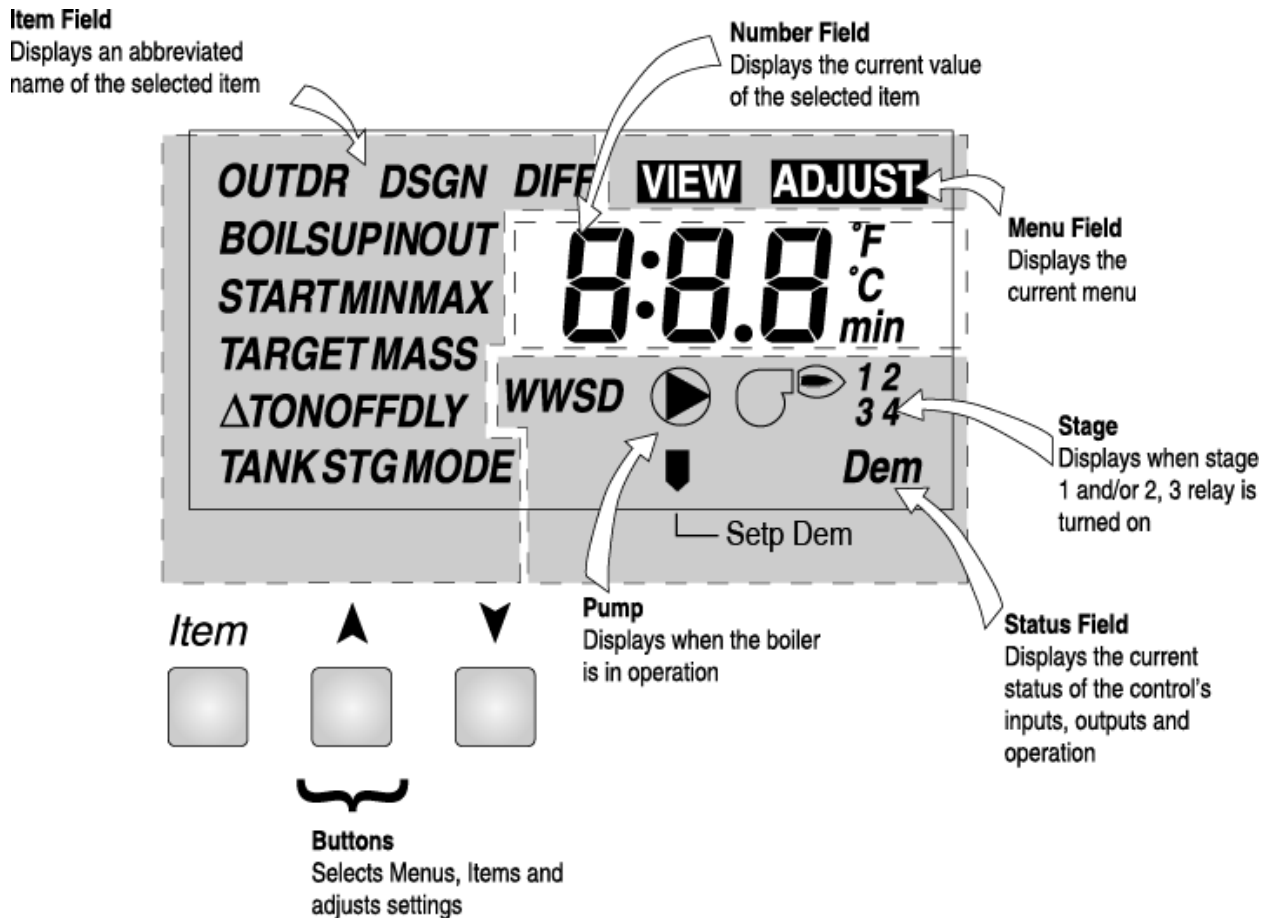

Figure 3 - BC1 Controller LCD Display
- 6) Press and hold three keys found below the LCD screen of the controller until "Adjust" is displayed (Figure 3). In adjust mode, enter the desired settings for your heating application (see *BC-1 Boiler Controller Manual* for more information).